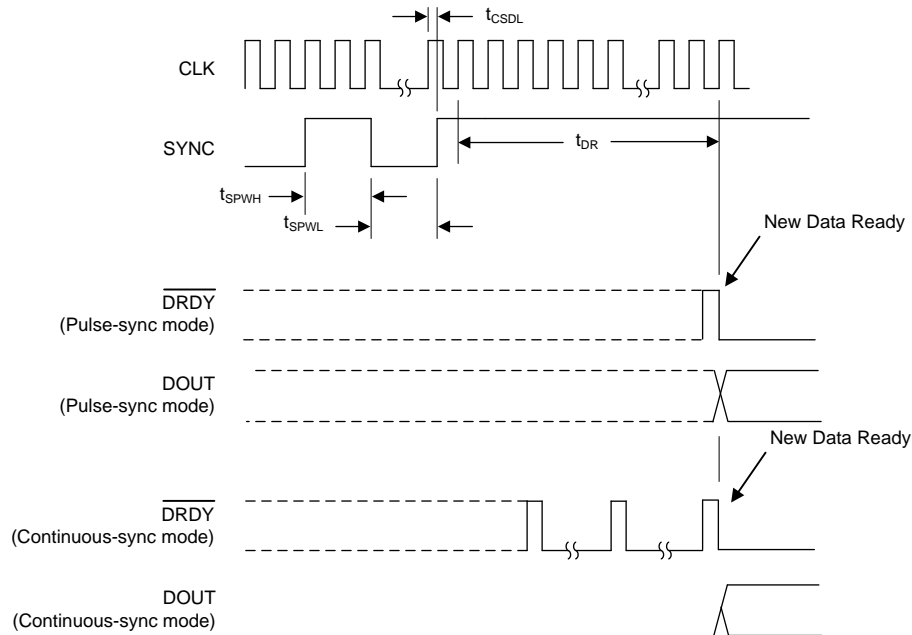
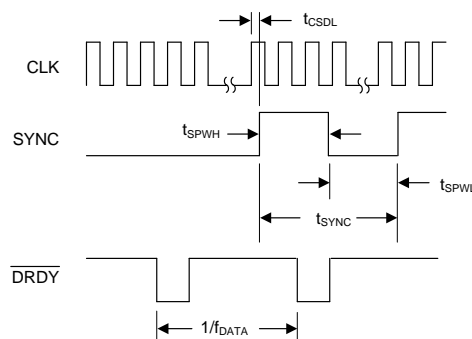

Figure 53. Pulse-Sync and Continuous-Sync Timing With Single Synchronization
Figure 54. Continuous-Sync Timing With SYNC Clock
In pulse-sync mode, the ADS1284 unconditionally synchronizes by stopping and restarting the conversion process. Synchronization is possible by pin or command in this mode. At synchronization, the device resets the internal filter memory, DRDY goes high, and after the digital filter has settled, new conversion data are available as shown in Figure 53 and Table 14 (Pulse-sync mode).
Table 14. Pulse-Sync Timing for Figure 53 and Figure 54
(1) CLK rising edge to SYNC rising edge timing must not occur within the specified time window.
(2) Continuous-sync mode; a free-running clock applied to the SYNC input without causing resynchronization. See Figure 54
Observe the timing restriction of SYNC rising edge to CLK rising edge as shown in Figure 53 and Table 14. Synchronization occurs on the next rising CLK edge after the rising edge of the SYNC, or after the eighth rising SCLK edge when synchronized by command. To synchronize multiple ADCs by the sync command, broadcast the command to the ADCs simultaneously.
In continuous-sync mode, either a single synchronization pulse or a continuous synchronization clock may be applied. Use the SYNC pin in this mode. When a single sync pulse is applied (rising edge), the device resynchronizes the same way as pulse-sync mode. ADC re-synchronization occurs only when the time between SYNC rising edges is not an integer multiple of the conversion period. When resynchronization occurs, \overline{DRDY} continues to toggle at the period of the data rate, and the DOUT output is held low until data are ready (63 \overline{DRDY} periods later). At the 63rd reading, conversion data are valid, as shown in Figure 53.
If a synchronization clock is applied to the SYNC pin, the device resynchronizes only under the condition $t_{SYNC} \neq N / f_{DATA}$, where $N = 1, 2, 3,$ and so on. When re-synchronized, \overline{DRDY} continues to strobe, but the data on DOUT is held low until new data are valid after filter reset. If the period of the synchronizing clock matches an integral multiple of the data rate, the ADC does not re-synchronize. Note that the phase of the applied clock and output data rate (\overline{DRDY}) is not aligned because of the initial delay of \overline{DRDY} after the SYNC clock is first applied. Figure 54 shows the timing for continuous-sync mode.